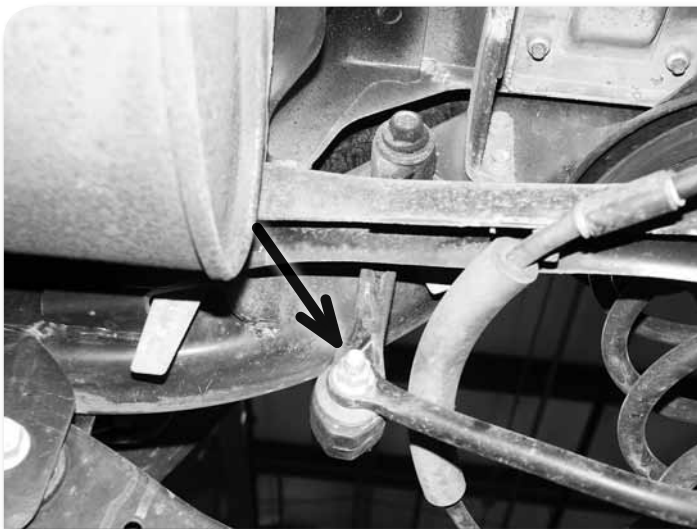

Figure 7
5. Disconnect the sway bar links from the sway bar **Figure 7**. Save hardware.